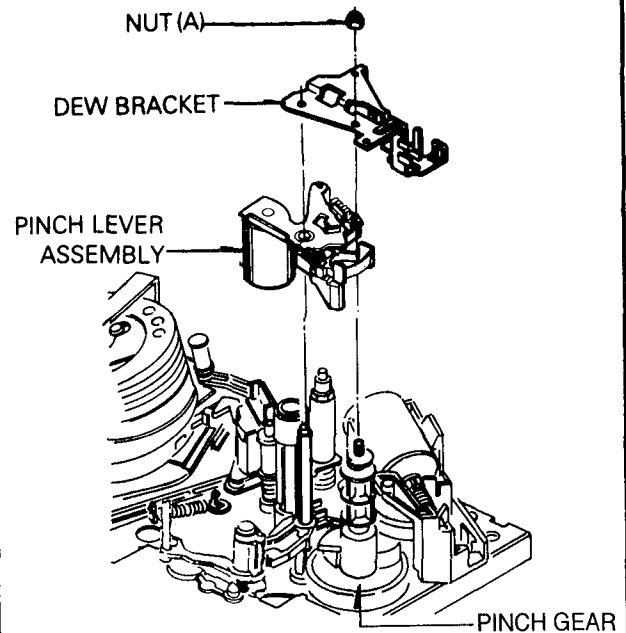

Fig. B-10-1 Pinch Gear Assembly
10. Pinch Gear(Fig. B-10-1, B-10-2)